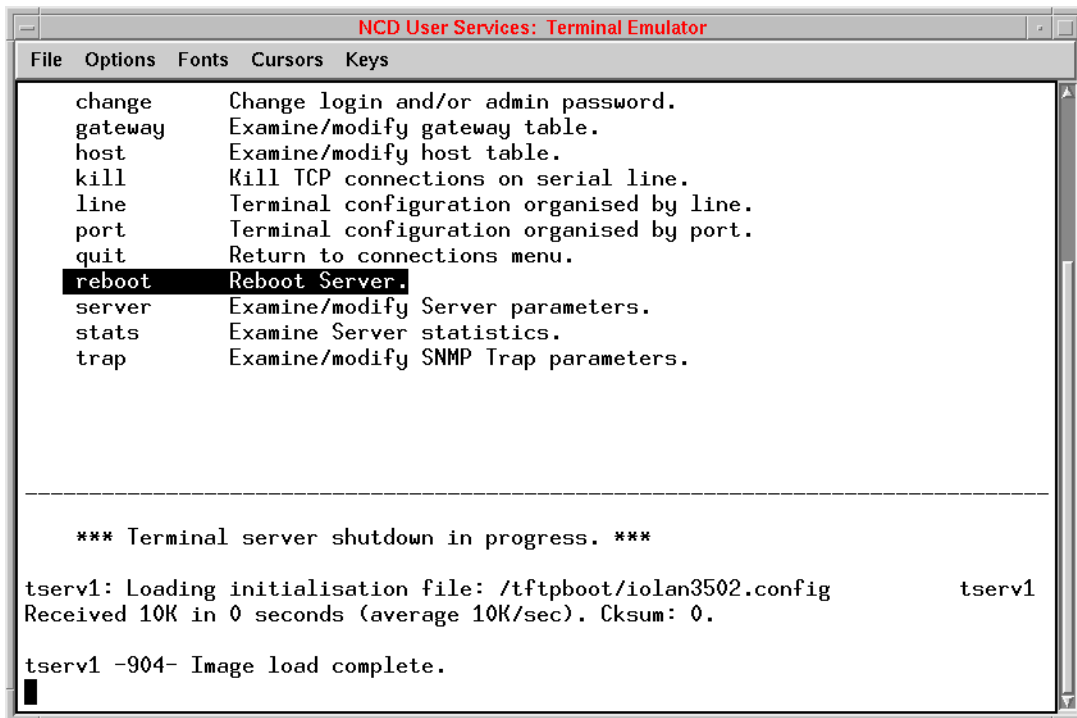

Figure 2-15: Administration Menu
29. Select **reboot: Reboot Server**, press **<Return>**, then press the **<Spacebar>** (see Figure 2-15).
The Administration menu appears (see Figure 2-15).